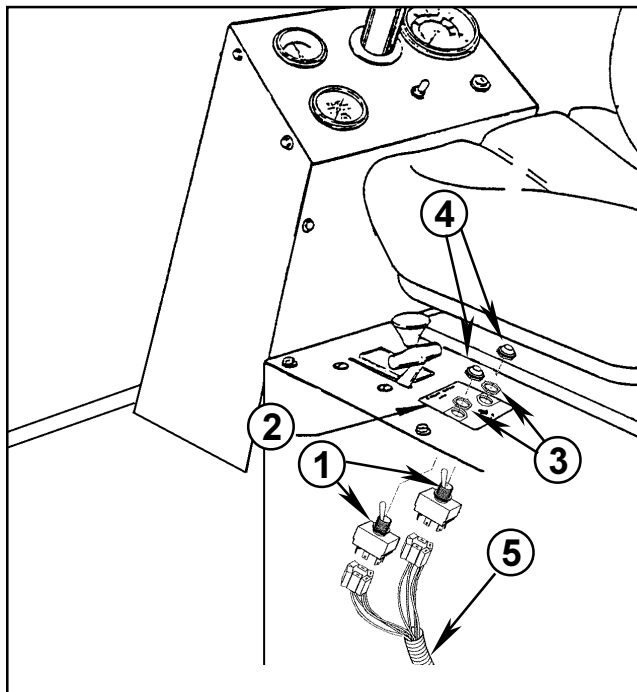

FIG. 11
1. Connect the Wiring Harness connectors to the Switches as shown in the **WIRING DIAGRAM**. Install the Switches in the holes in the seat support, as per FIG. 11, using the nuts included with the Switches. Install the protective rubber Boots. Apply the "UP/DOWN" decal between the Switches.